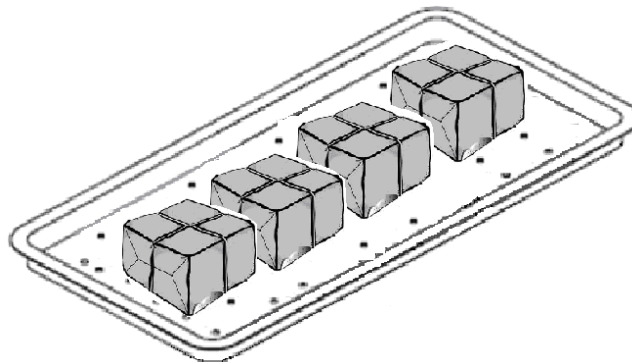

Figure 25
**Warning:** To sterilize absorbent cotton or woolen, please wrap it with a thin towel, covering cloth, linen, or sterilizing pouch to avoid piping clog according to Figure 25.